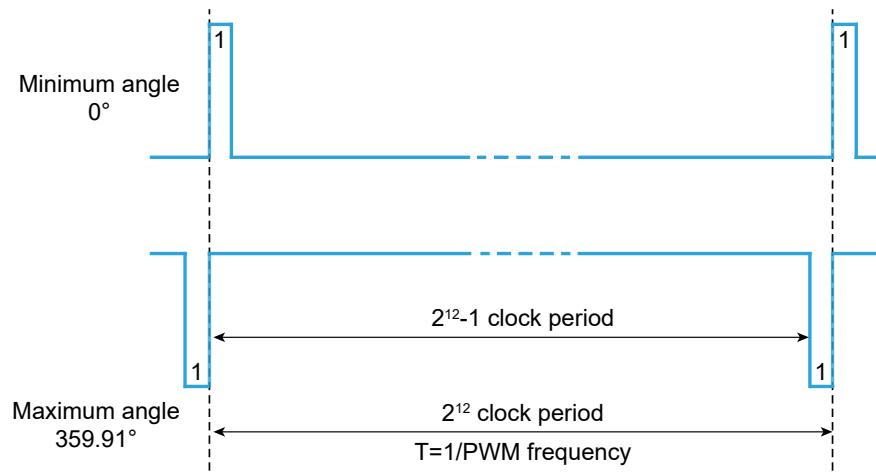

Figure 8. Waveform of PWM mode output signal
TMR3102 supports pulse width modulation (PWM) output. The duty cycle of PWM is a logic signal which proportional to the magnetic field angle. The duty cycle is limited by the minimum value (1/4096 of the period) and the maximum value (4095/4096 of the period), so the duty cycle varies from 1/4096 to 4095/4096 with the resolution of 12-bits. Figure 8 shows one period of the PWM signal, and the period (T) is  $1/F_{\text{PWM}}$ .